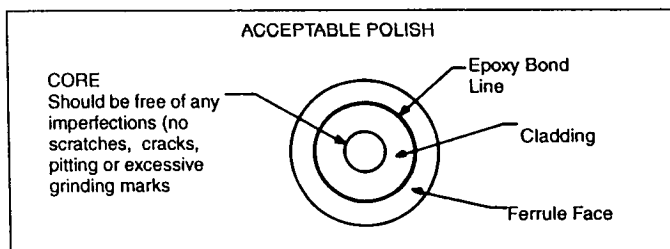

Figure 1
- Polish terminus until an optically acceptable fiber end has been produced, approximately 1 minute. (See Figure 1). If a small amount of epoxy is on the polished surface, continue polishing until no epoxy can be seen with the naked eye. Inspect end of the optical fiber for desired finish by examining it with the Fibrscope* portable microscope or other microscope. Repeat polishing if required.
- Using a circular motion of approximately 2 inches in diameter, polish terminus on 1 micron lapping film backed by a smooth hard surface, approximately 40-50 seconds. If a small amount of epoxy is on the polished surface, continue polishing until no epoxy can be seen with the naked eye. Inspect end of the optical fiber for desired finish using a microscope. (See Figure 1). Repeat for other termini. (For an exceptionally fine finish, continue polishing terminus for 20-30 seconds using .3 micron lapping film. Thoroughly clean termini before proceeding with this step).